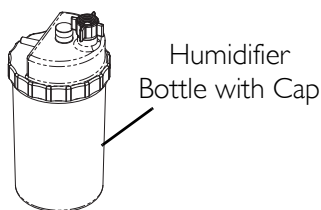
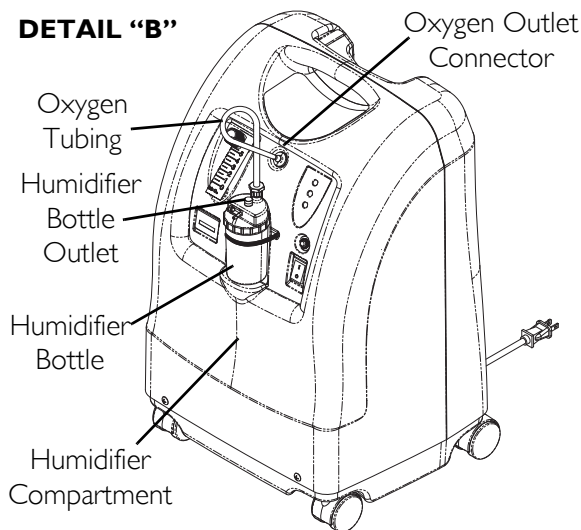

FIGURE 5.1 Filling the Humidifier
FIGURE 5.3 Humidifier Compartment
NOTE: For this procedure, refer to FIGURE 5.1, FIGURE 5.2 on page 16, FIGURE 5.3 on page 17.
5. Attach the humidifier bottle adapter to the humidifier bottle by turning the wing nut on the humidifier bottle counterclockwise until it is securely fastened. See Detail "A" in FIGURE 5.3.
6. Place the humidifier bottle/adapter assembly in the humidifier compartment on the concentrator. See Detail "B" in FIGURE 5.3.
7. Attach oxygen tubing from the humidifier bottle/adapter assembly to oxygen outlet connector on the concentrator. See Detail "B" in FIGURE 5.3.
8. Attach the cannula/patient supply tubing to the humidifier bottle outlet. See Detail "B" in FIGURE 5.3.